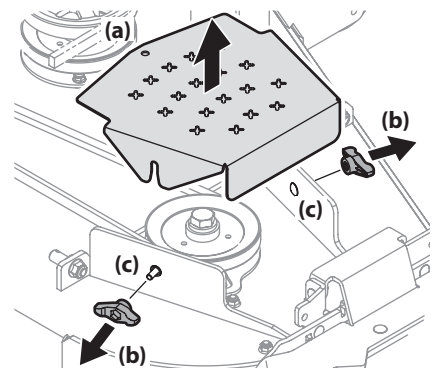

Figure 54
3. To remove the belt covers (a), remove the wing knobs (b) from the carriage screws (c) securing it to the deck. See Figure 54.
4. The speed nut should hold the carriage screw (c) and tab bolt in place, if not re-install as shown in Figure 54.